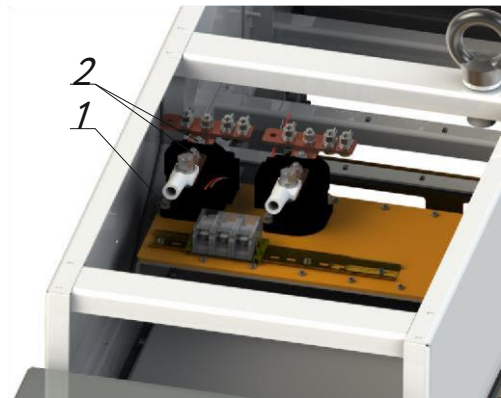

Figure 7.8. Direct current relay
8. Unscrew nuts 2, remove tires (Figure 7.8).
9. Unscrew screws 1 (Figure 7.8), disconnect the wires, remove the relay.